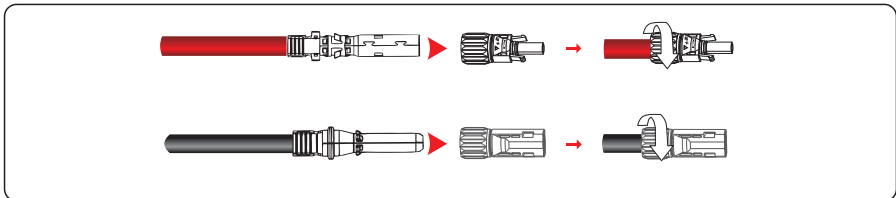

Figure 5.9 Connecting positive and negative connectors
**Step 3** Insert the crimped positive and negative power cables into the corresponding positive and negative connectors until a "click" sound is heard, Tighten the locking nuts on the positive and negative connectors using a tool, as shown in Figure 5.9.